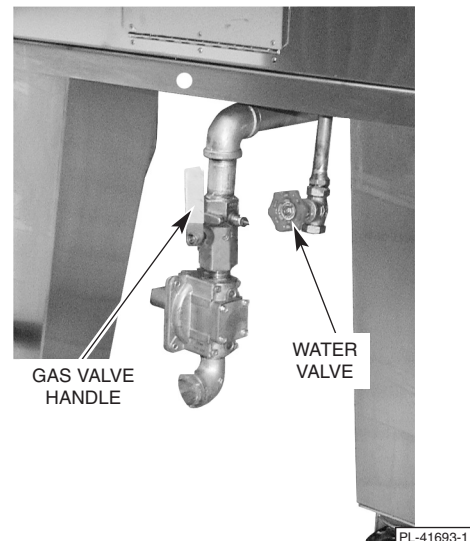

Fig. 14
- For systems plumbed to water line, turn water valve knob (Fig. 14) on until 1" of water is in the drip pan, then turn water valve knob off.
- Open main gas valve (Fig. 14).